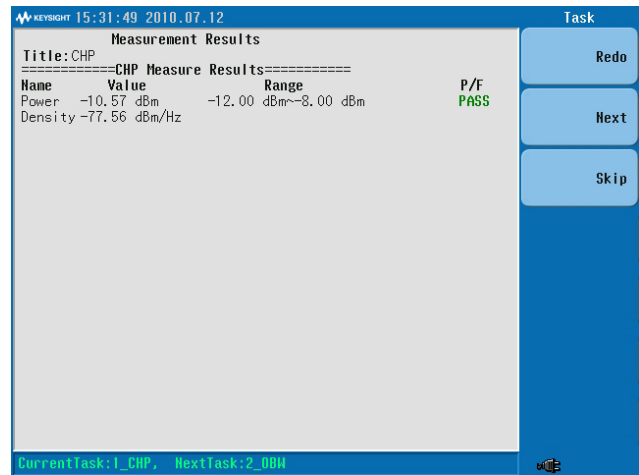

Figure 12. Test measurement result (manual mode)
- The measurement tasks are executed non-stop and there is a failed result, e.g. passing the defined limit, it will enter "Manual" mode (Figure 12)